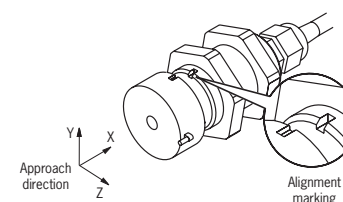

Fig. 1: Alignment of read head and actuator
The read head and actuator may be installed in any position. The alignment of the read head and the actuator must be kept in mind (see Fig. 1).
- when the guard is closed, the active read head and actuator faces are exactly aligned (see Fig. 1)
- If the approach speed between the read head and the actuator is low and the evaluation unit CMS-E-BR is used, the approach direction **Z** (see Fig. 1) should be avoided.